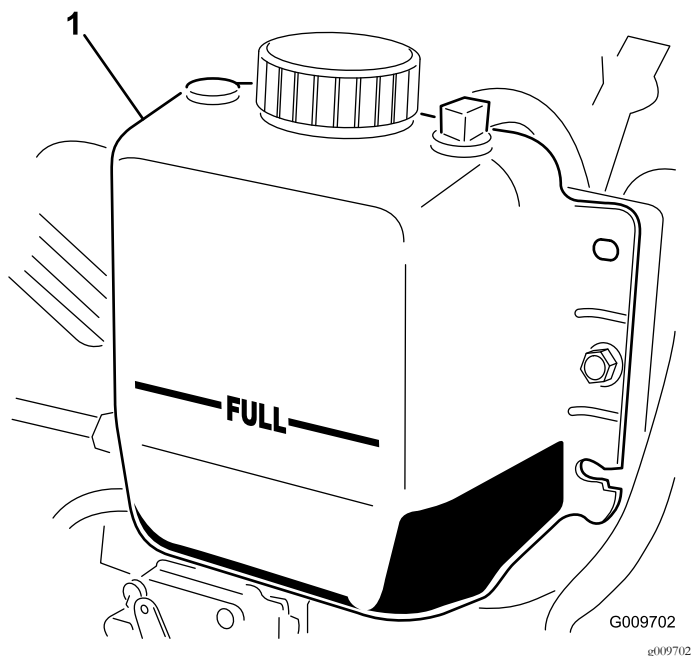

Figure 63
2. Check the coolant level in the radiator. The radiator should be filled to the top of the filler neck and the expansion tank filled to the FULL mark (Figure 63).